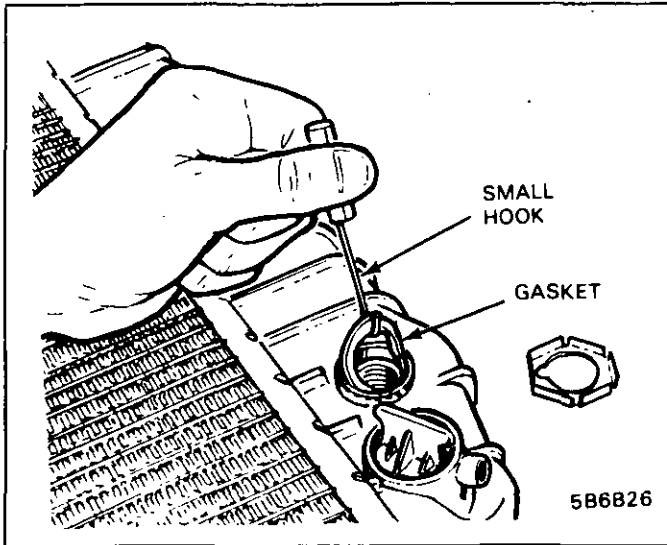

Fig. 38 Removing Oil Cooler Gasket
- Press the oil cooler into the hole and remove the gasket using a small hook (Fig. 38).